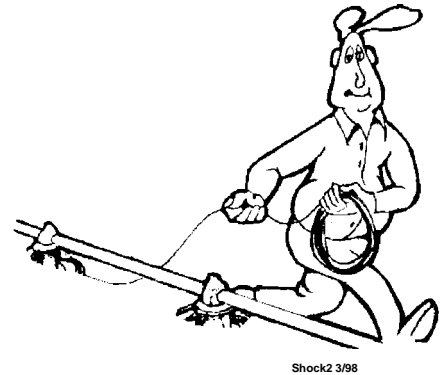

Figure 44. Unrolling the Cable
1. Unroll the bulk anti-roost cable. Note: If the cable is unrolled as shown in **Figure 44**, taking 5 loops of the coil with one hand, then changing hands to remove 5 loops as it is unrolled, it will lie flat during installation.